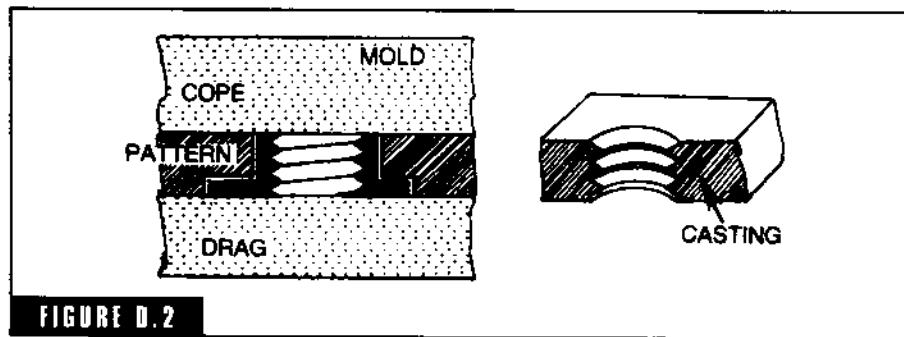

FIGURE D.2
**damper screw shells** Screw shells are drawn tin shells with a roller thread used for casting a threaded hole (Fig. D-2). They eliminate the cost of drilling and tapping. Because these threads are rolled, they are not satisfactory for a pressure-tight fitting.